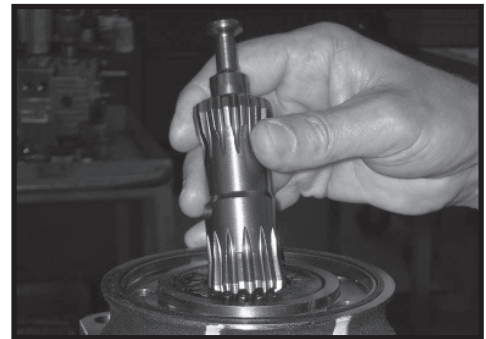

Figure 17
12. Remove drive link (10) from coupling shaft (12) if it was not removed with rotor set and wear plate. Inspect drive link for cracks and worn or damaged splines. No perceptible lash (play) should be noted between mating spline parts. SEE FIGURE 17. Remove and discard seal ring (4) from housing (18).